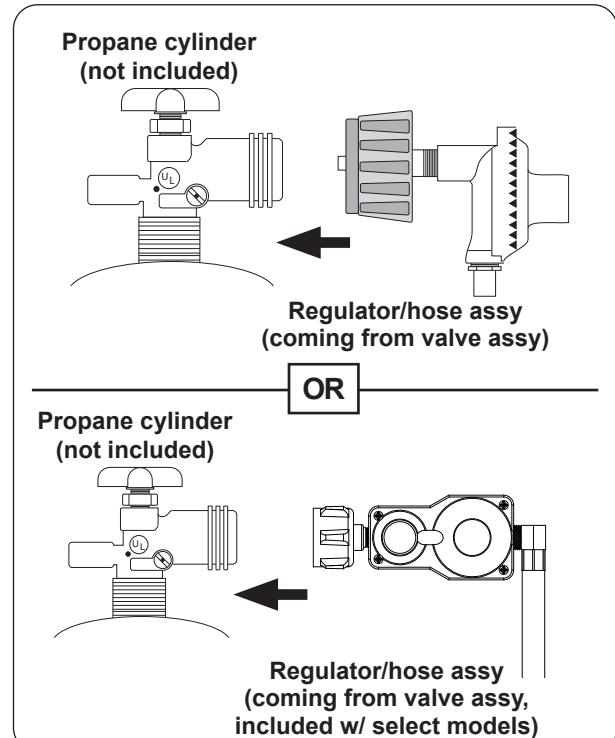

Fig. 34-2 Connecting hose assy to L.P. cylinder
2. Attach the regulator end of the hose assembly to a propane cylinder (not included) and tighten (see Fig. 34-2).